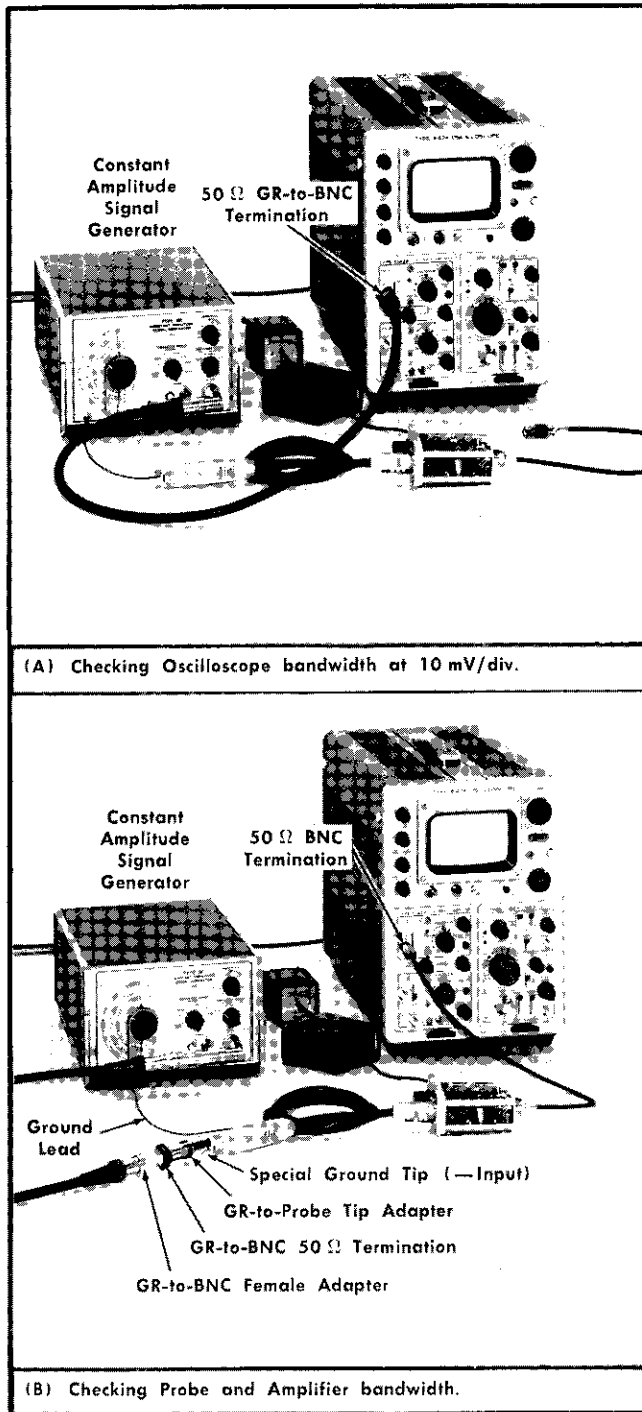

Fig. 6-29. Equipment setup pictures for bandwidth check, step 7.
a. The preliminary control settings apply. The equipment setups are shown in Fig. 6-29.
c. Disconnect the Amplifier's 18 inch cable and 50 Ω BNC termination from the Oscilloscope CH 1 INPUT connector. Connect the following components to the OUTPUT connector of the Constant Amplitude Signal Generator (item 6) in the sequence listed:
- (1) Switch the Generator frequency to 50 kHz ONLY.